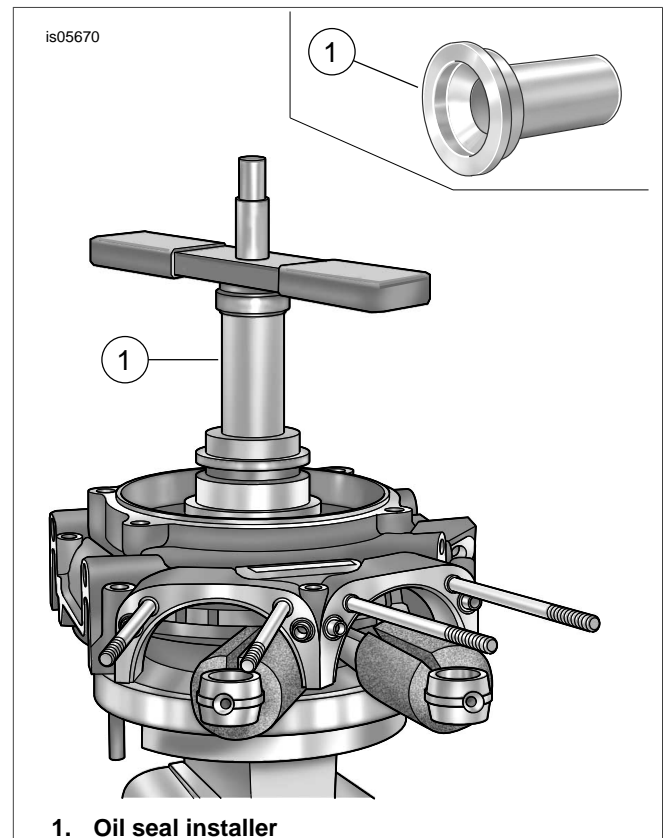

Figure 20. Sprocket Shaft Oil Seal Installer
21. See Figure 20. Install new oil seal using pilot, Nice bearing, large flat washer and handle from SPROCKET SHAFT